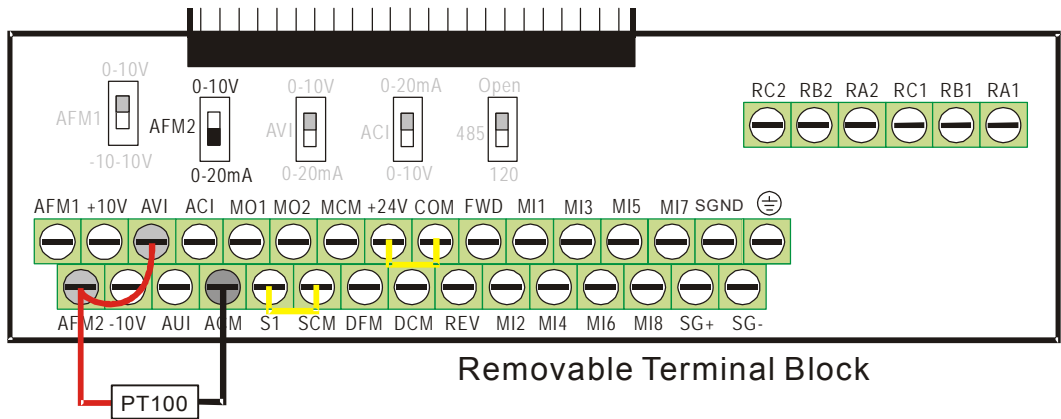

Figure 1
1. Switch AFM2 (SW2) to 0-20mA on the I/O control terminal block. (Refer to Figure 1, PT100 wiring diagram)
2. Wiring (Refer to Figure 1, PT100 wiring diagram):